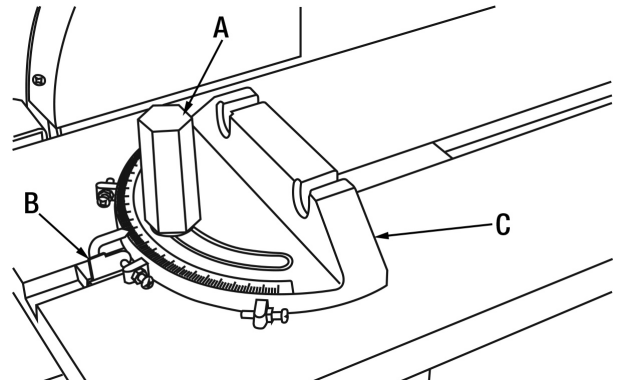

Figure 11
The miter gauge shown in Fig.11 can be installed in both table slots of the sanding belt table and the sanding disc table. It should be used as often as possible to provide workpiece support during sanding operations. To adjust miter gauge:
1. Loosen lock handle (A) Fig.11.
2. Lift the positive stop plate (B) Fig.11 and pivot the miter gauge body (C) to the desired angle, lower the positive stop plate (B) and retighten lock handle (A).
3. If you desire a preset positive stop such as 90° or 45° setting, loosen lock handle (A) Fig.11, lift the positive stop plate (B) and slightly pivot the miter gauge body (C). Once you get close to the desired angle, lower the positive stop plate, continue to rotate the miter gauge body towards the desired angle, the positive stop plate will engage that positive stop position, once the preset angle is set, retighten lock handle (A).